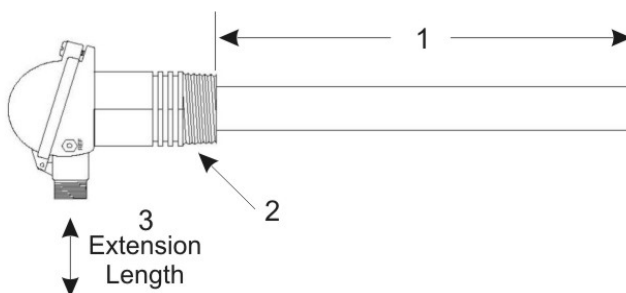

Figure 2-2: Model 9060L Probe
1. Probe insertion length (from process end of mounting thread to probe sensing tip). See Figure 2-2.